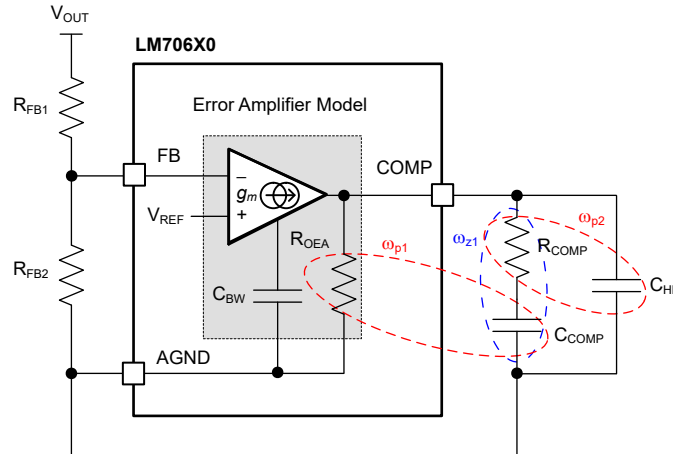

Figure 7-3. Error Amplifier and Compensation Network
A Type-II compensator using a transconductance error amplifier (EA) is shown in 図 7-3. The dominant pole of the EA open-loop gain is set by the EA output resistance, R_{OEA} , and effective bandwidth-limiting capacitance, C_{BW} as shown by 式 23.
The EA compensation components create a pole close to the origin, a zero, and a high-frequency pole. Typically, $R_{COMP} \ll R_{O-EA}$ and $C_{COMP} \gg C_{BW}$ and C_{HF} , so the approximations are valid. Figure 7-3 circles the poles in red and the zero in blue.